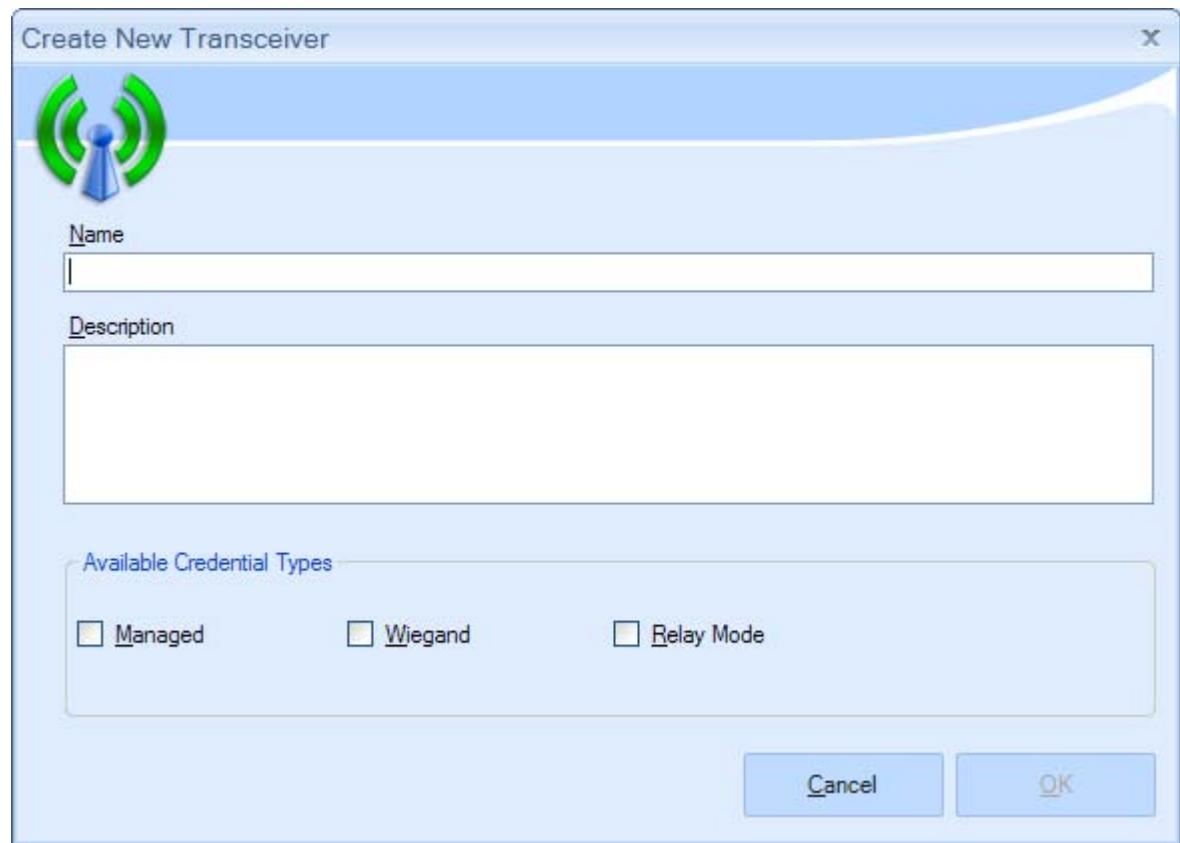

Figure 7
1. Select the “New Transceiver” button. The Create New Transceiver Screen (Figure 7) will appear.